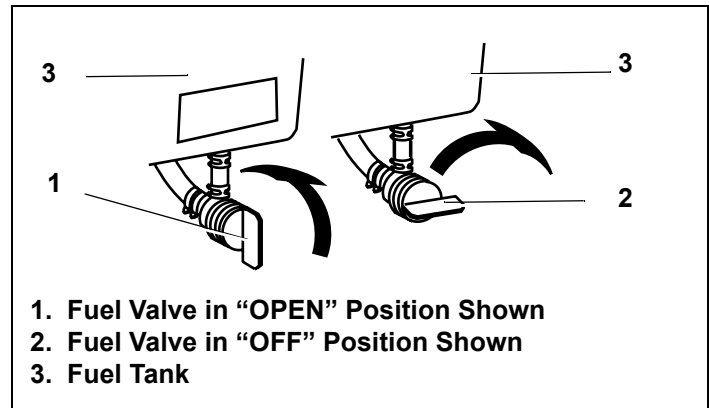

Figure 28. Optional Fuel Valve
2. Be sure fuel valve is open, if provided. See Figure 28.
2. Be sure fuel valve is open, if provided. See Figure 28 on page 15.